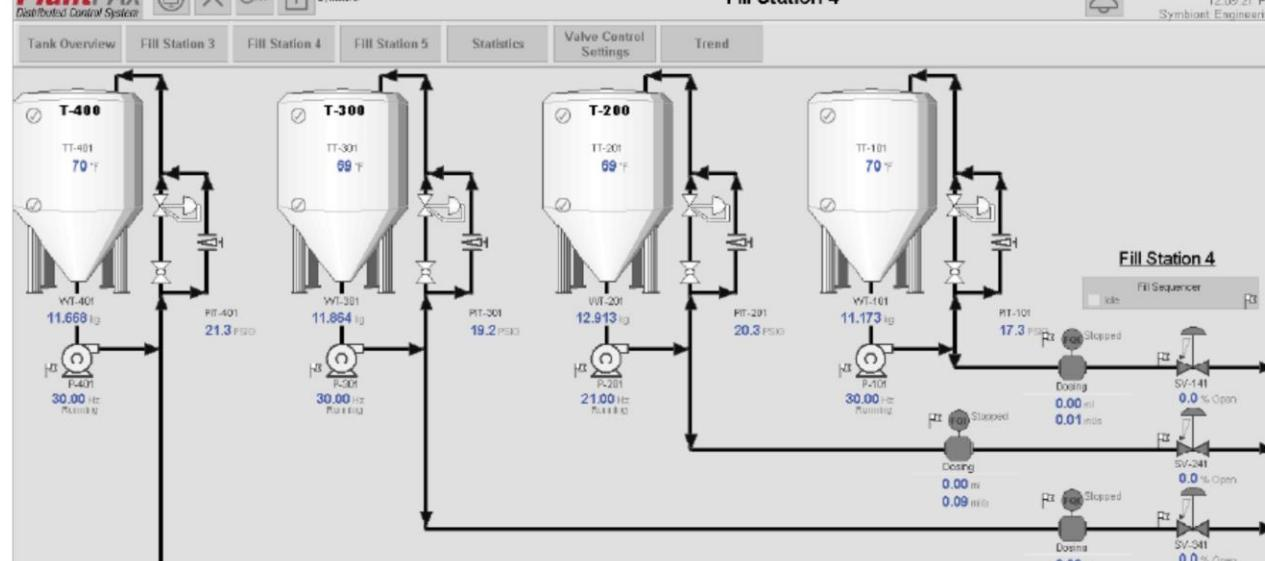

Figure 3 The Fill Station 4 Overview Screen
The image (Figure 3) is a screenshot of a control system interface for Fill Station 4, part of the PlantPAX Distributed Control System. The interface displays an overview of the fill station, including four tanks labeled T-400, T-300, T-200, and T-100. Each tank has associated temperature (TT), weight (WT), and pressure (PIT) readings.